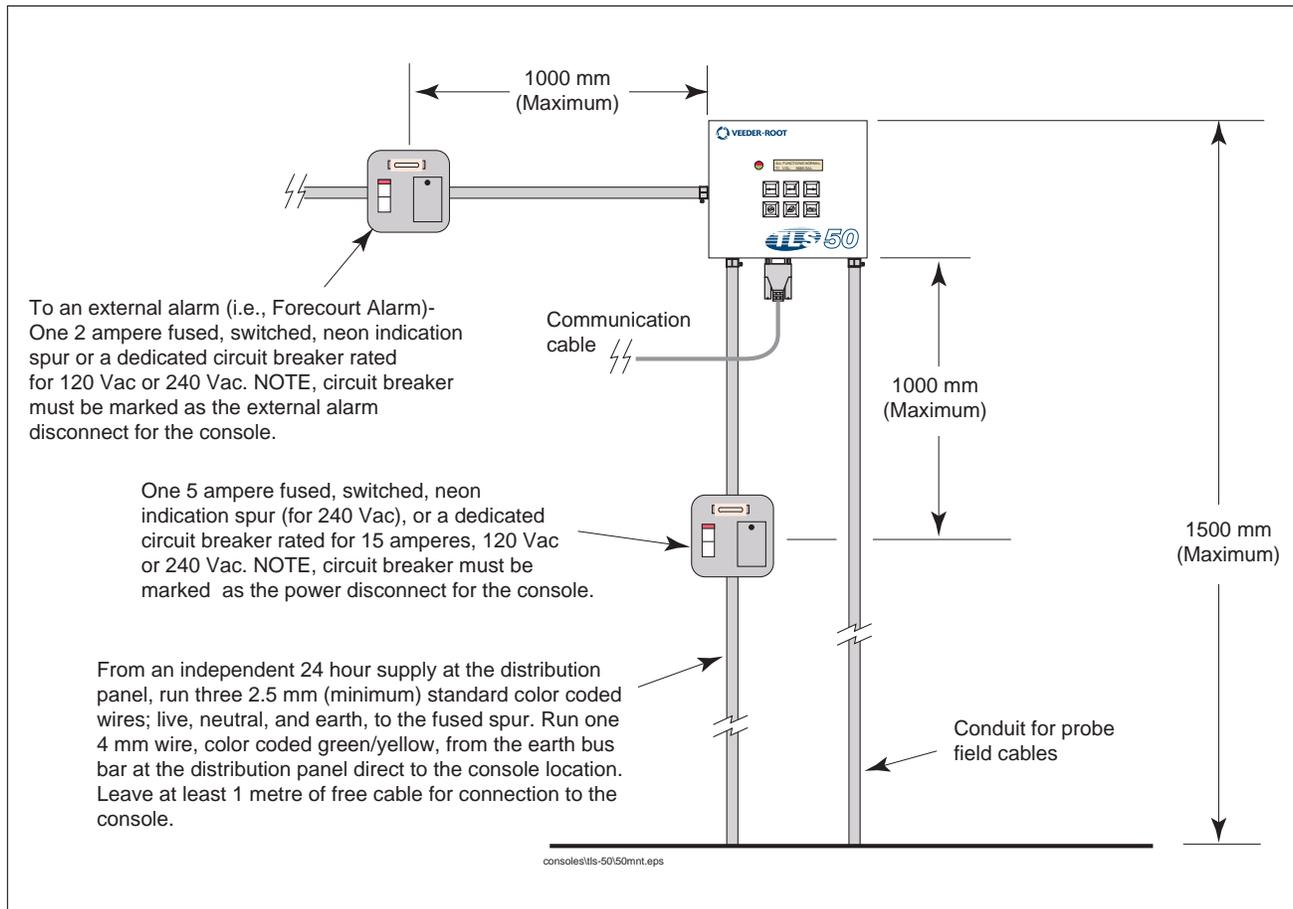
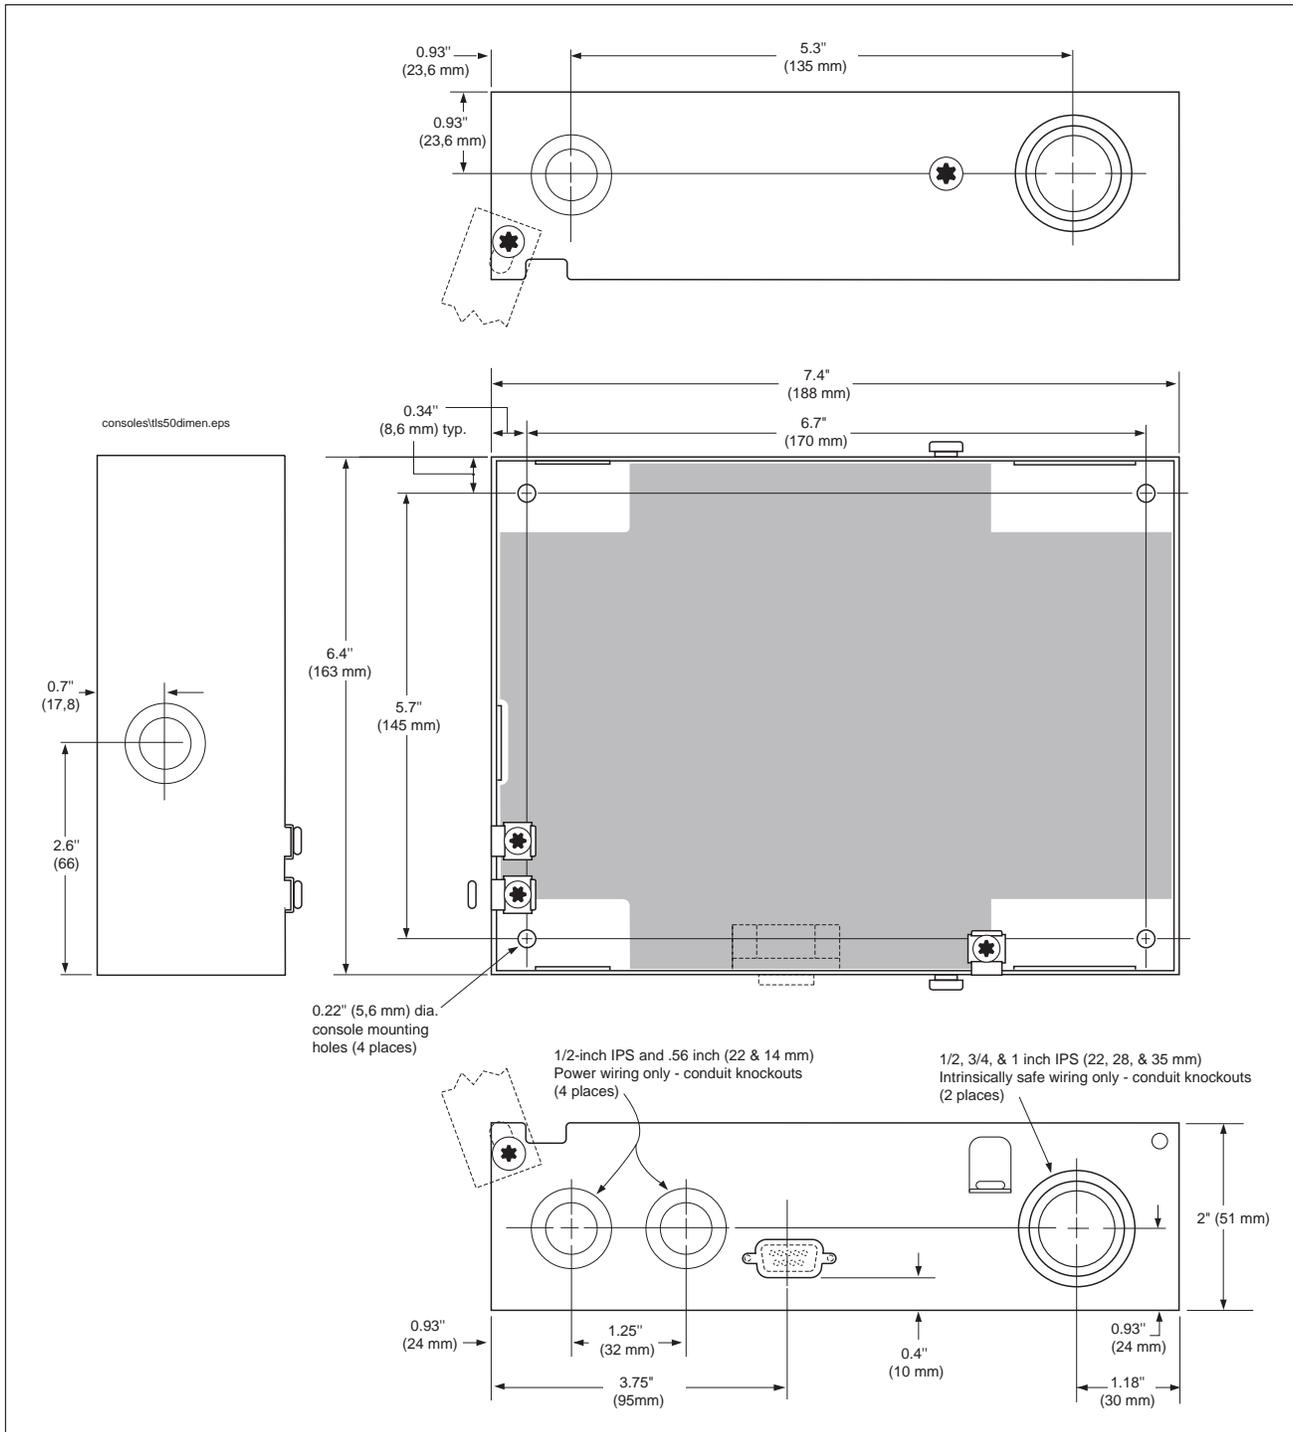

Figure 3. Recommended Mounting of Console
Figure 4. Console Dimensions and Designated Conduit Knockouts
Figure 3 illustrates recommended console mounting. Install the console fastening devices to the mounting surface using the hole pattern (6.7" x 5.7") shown in Figure 4. Mounting screws up to 3/16" diameter may be used.
Install metal conduit (1/2" I.P.S.) between the console and the power panel. Figure 4 shows the three designated knockouts (one each on top, left side, and bottom) through which power wiring can safely enter the console.
2. Attach conduit from the power panel to the console's Power Area knockouts only (1 on top and bottom, ref. Figure 4).
<p>Probes operate in areas where flammable liquids and explosive vapors may be present. Improper installation may result in fire or explosion causing serious injury or death.</p> <p>Practice the following:</p> <ol style="list-style-type: none"> 1. Read thoroughly and follow the instructions shipped with each probe. 2. Probe wiring conduit must not contain any other wires. 3. Probe wiring and conduits must enter the console only through their designated areas (see Figure 4). 4. Power and communication wires and conduit must not enter the intrinsically safe compartment of the console. (see Figure 4).